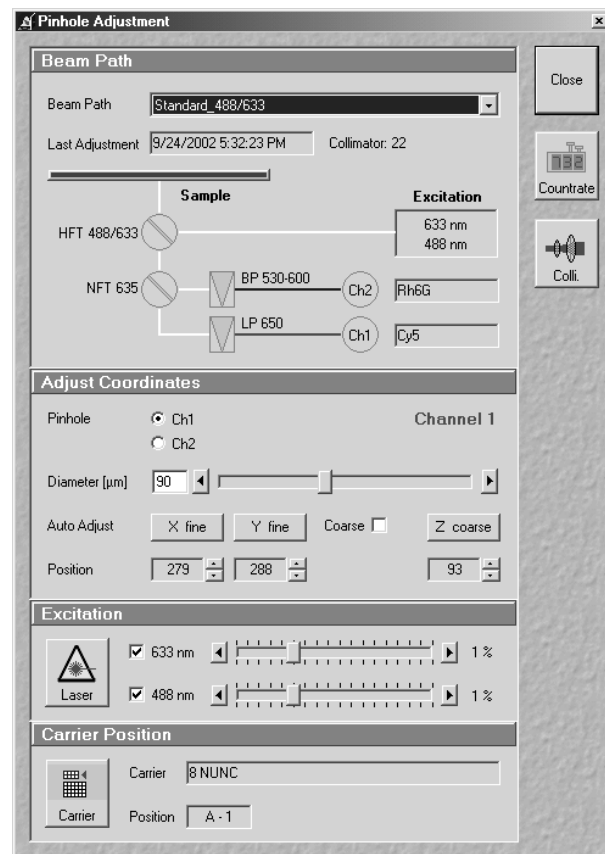

Fig. 3-63 Pinhole Adjustment window
(3) To adjust the pinhole, proceed as follows
- Click the **Pinhole** button in the **Configuration** toolbar subordinate of the **Main** menu. The **Pinhole Adjustment** window will appear (Fig. 3-63).